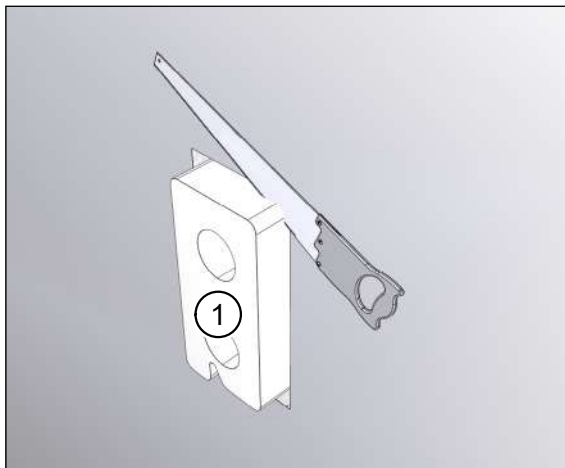
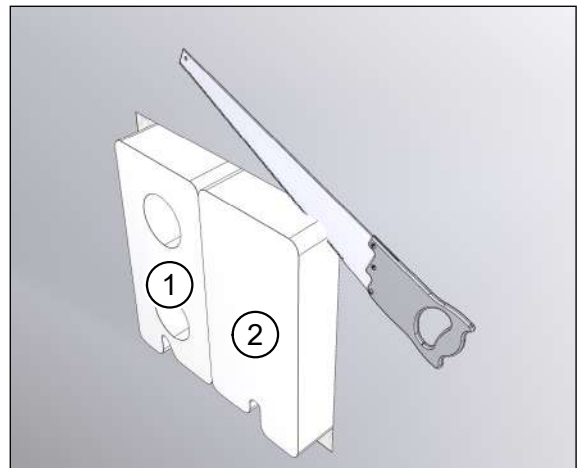

Fig. 62: Aligning the wall box **without** filler piece
Fig. 63: Aligning the wall box **with** filler piece
- ▶ Use a Styrofoam saw to cut off the excess wall box (item 1 in Fig. 62 and Fig. 63) and filler piece, if necessary (item 2 in Fig. 63), so that they are flush with the external wall side or any attached insulation.